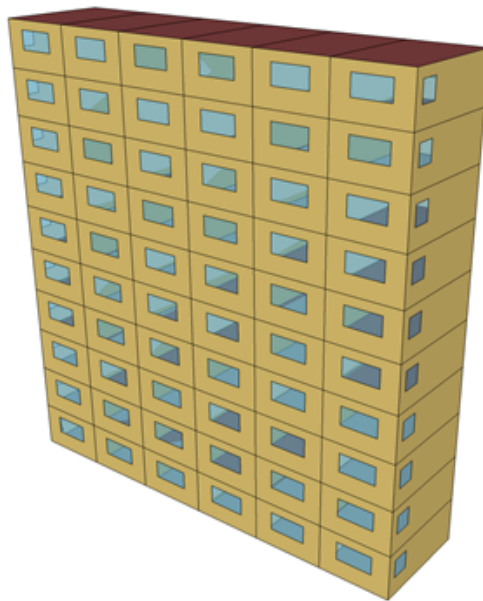

Fig. 12 Multistory building – fully cloned.
- Multistory 3 – the fully configured building – ref Fig. 12.